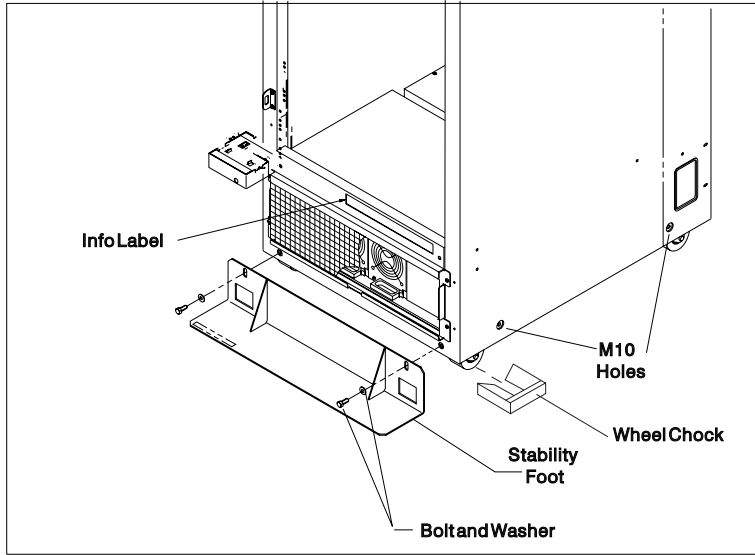

Figure 2-11. Installing the Stability Foot and Wheel Chocks
1. Place the stability foot at the bottom front of the frame. Line up the two holes with the bolt holes in the frame. See Figure 2-11 on page 2-15.